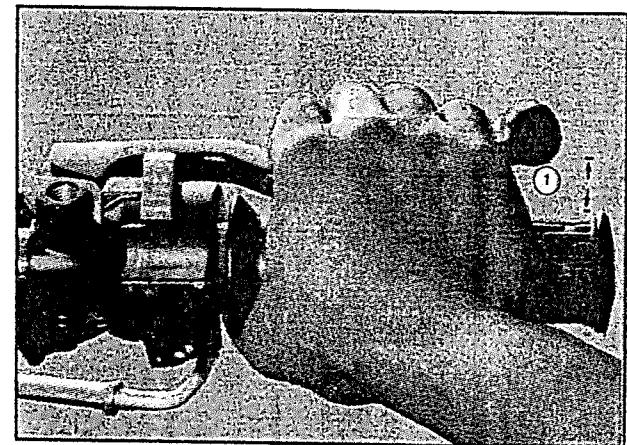
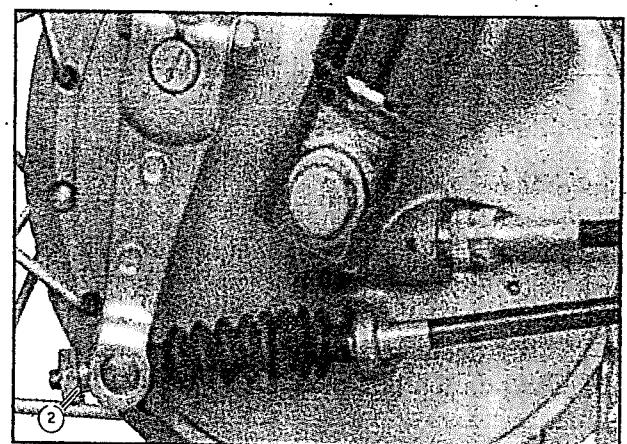

Fig 2.24
Fig 2.25
- Measure the clearance between the brake lever end and throttle grip when brake is fully applied. Adjust the clearance (1) (fig 2.24) 20-30 mm by turning the front brake adjusting nut (2) (fig 2.25)